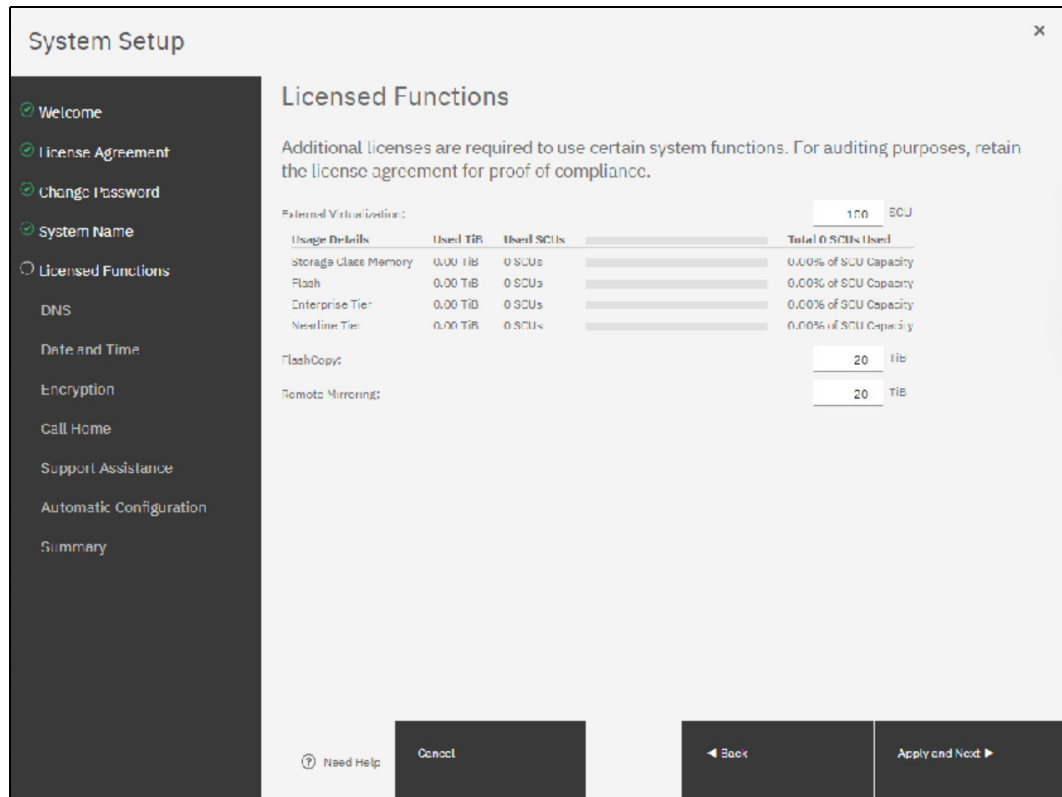

Figure 2-28 License Functions
15. After you provide the System Name you will be asked to enter the required, additional licenses for each function. Figure 2-28 on page 39 shows you an example.